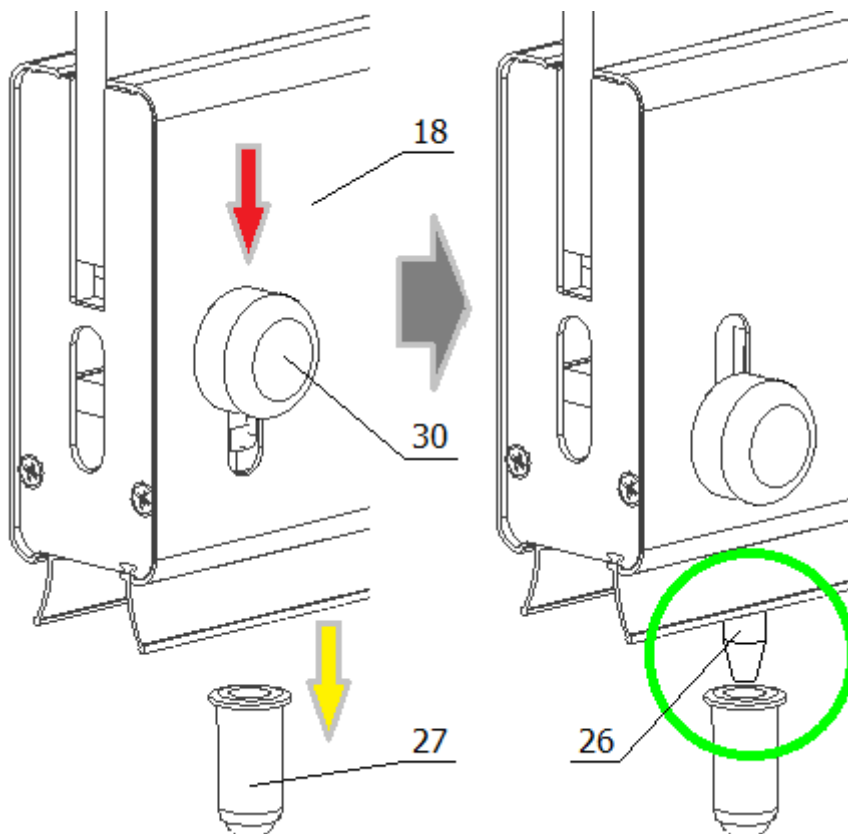
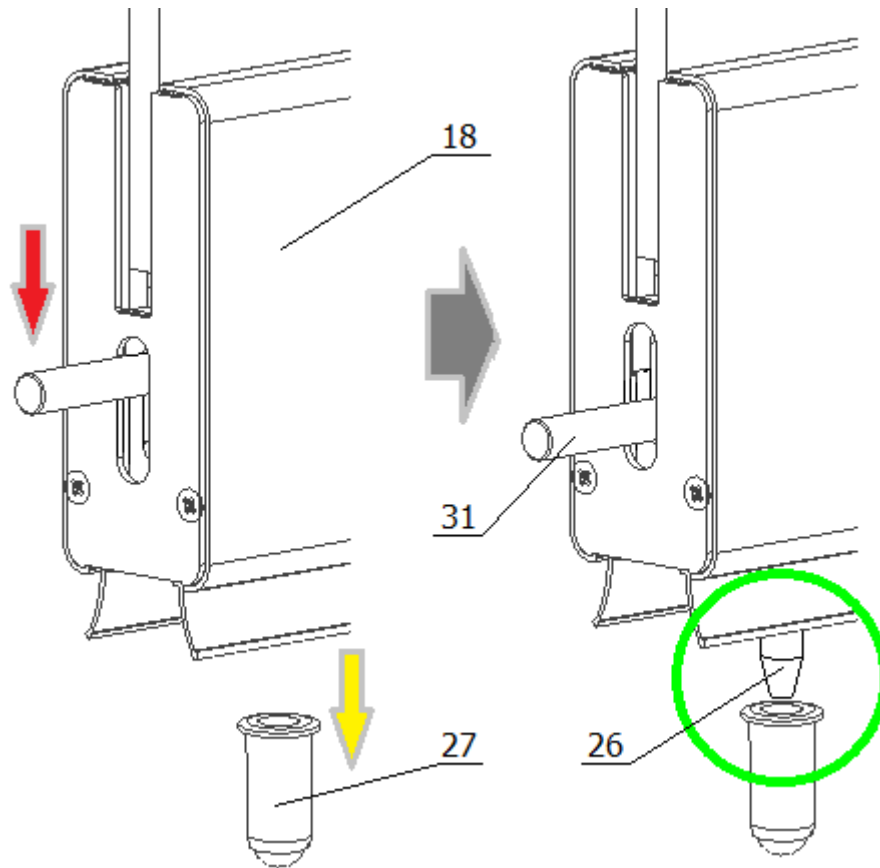

Fig.9 Locking the all-glass regular panel with a side lock
Fig.10 Locking the all-glass regular panel with a side lock
Each all-glass panel is **BLOCKED** with locks which are triggered by moving their visible handles (30 and 31) **DOWN** (Fig. 9 and 10). The pin (26) which enters the anti-dust seat (27) is extended. In this way, the panel is held in place.
The panels do not need special preparation when unfolding and folding the wall - side locks (Fig. 9 and 11) and front locks (Fig.10 and 12) are used according to the principles described in Section 4.
2. Lock the panel in the floor **using the visible lock handles (30 or 31 in Fig. 2 and 3)** as described in **Section 4.1 (Fig. 9 and 10)**.